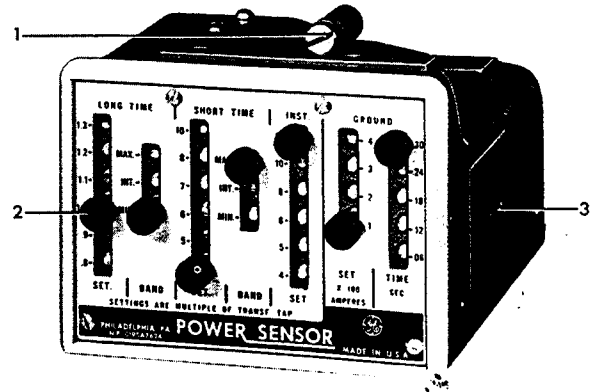

Fig. 35 (8039649) Power Sensor Unit
3. The Power Sensor Unit with the various pick-up settings and time delay selection taps (Fig. 35).
Power Sensor Unit (Fig. 35)